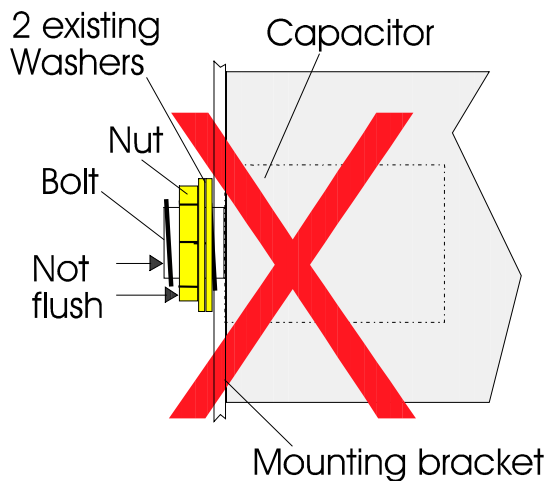

Figure 13
1. Remove the nut of the large capacitor (see Figure 13).